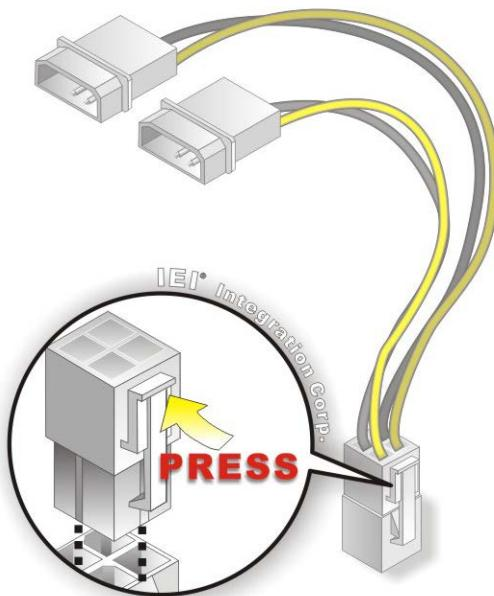

Figure 4-15: Power Cable to Motherboard Connection
Step 2: Connect the Power Cable to the Motherboard. Connect the 4-pin (2x2) Molex type power cable connector to the power connector on the motherboard. See Figure 4-15.